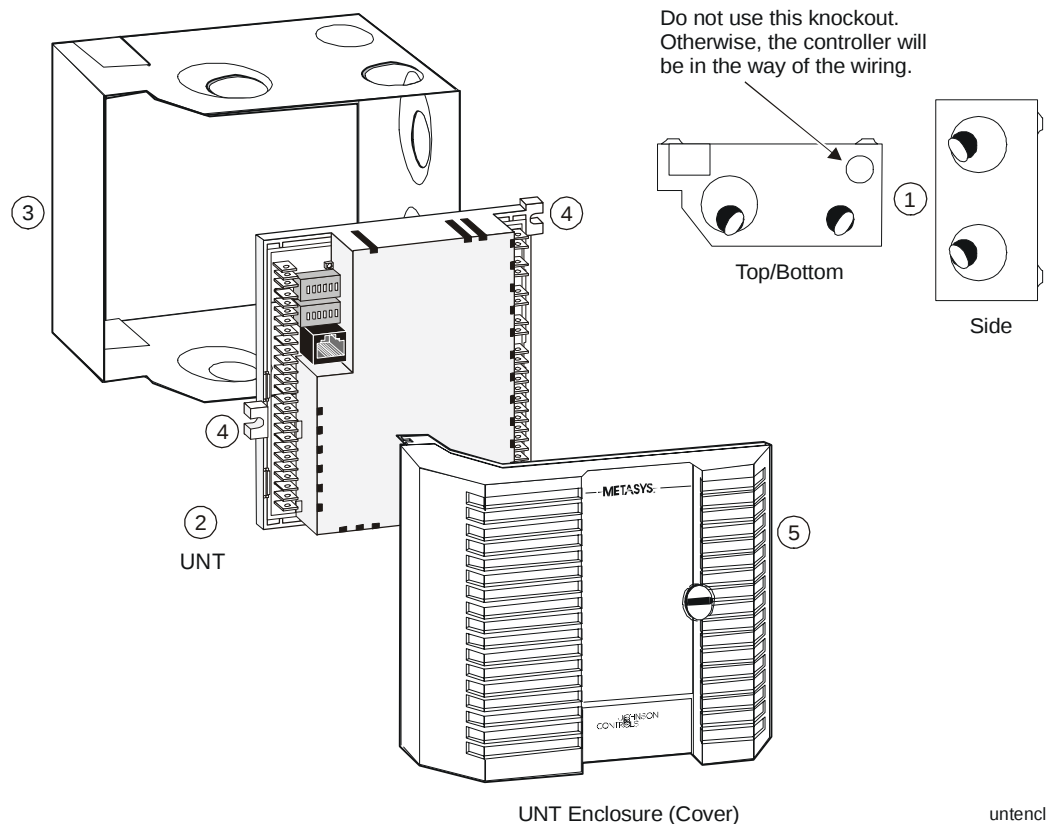

Figure 4-1: Installing the UNT1100 in an ENC100 Enclosure Kit
3. Use a flat-blade screwdriver and pliers to remove the necessary wire passage knockouts ① as shown in Figure 4-1.